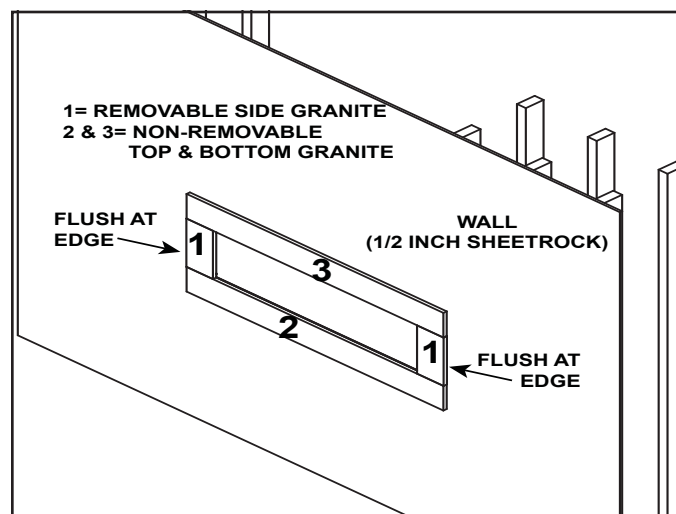

Figure 10.23 Sequence of Granite Piece Placement
Note: Install granite pieces in the order indicated in Figure 10.23.
9. Center the top granite piece in position on top of the two side pieces ensuring that the left and right edges of the top piece are flush with the edges of the left and right outside granite pieces. See Figure 10.23.